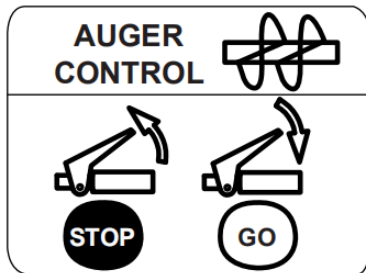

Figure 4
1) Insert the angle side (fig.4 B) of drive control rod into the hole on the lever (fig.4 C) to connect it to the transmission, and secure it in place with the nut.
2) Attach the other side of the control rod (fig.4 A) to the hole on the bottom part of the gear lever (fig.4 D), and secure it in place with the B pin.
The auger control is located on the left handle. Squeeze the control grip against the handle to engage the augers and start snow throwing action. Release to stop. See Figure 4.